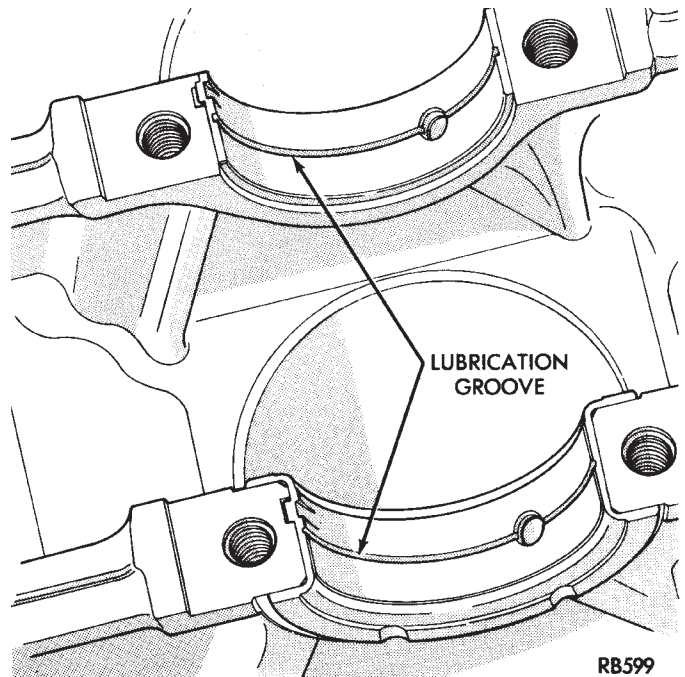

Fig. 12 Installing Main Bearing Upper Shell
(2) Install the main bearing shells with the lubrication groove in the cylinder block (Fig. 12). **The 1, 2, 4 and 5 main bearings are full groove to provide full time oiling to the connecting rod. Only the number 3 is half-groove.**